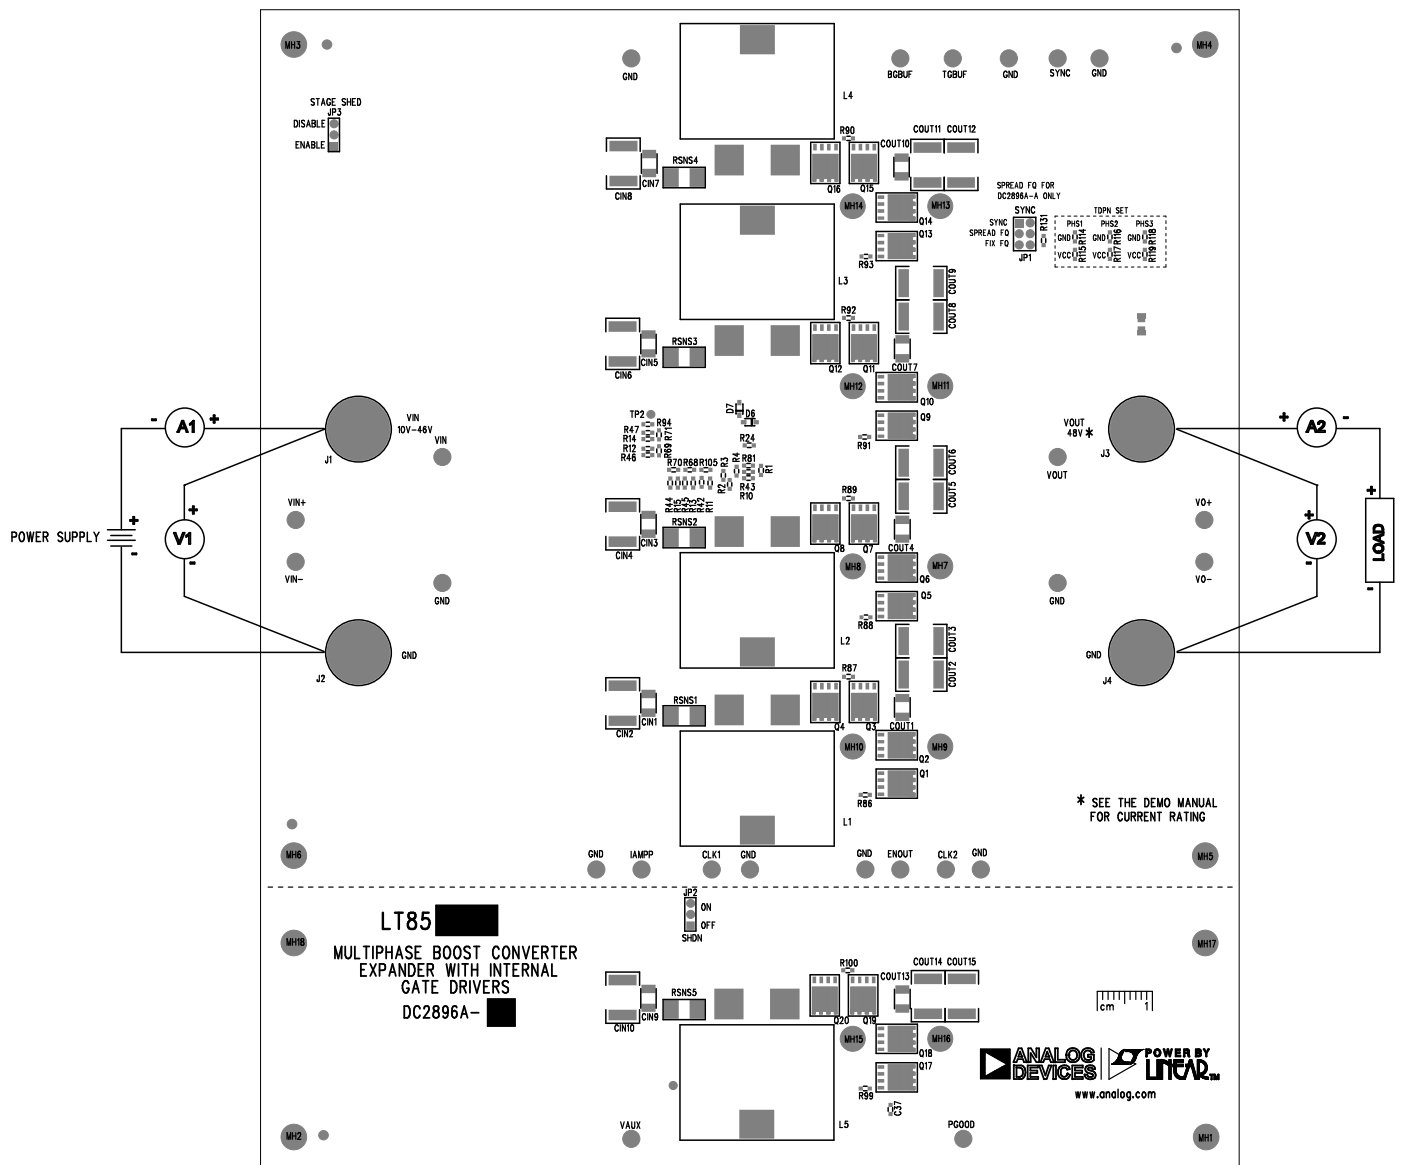

Figure 1. Proper Equipment Setup for DC2896A-B
6. Connect the input power supply with power off, load and meters as shown on Figure 1.